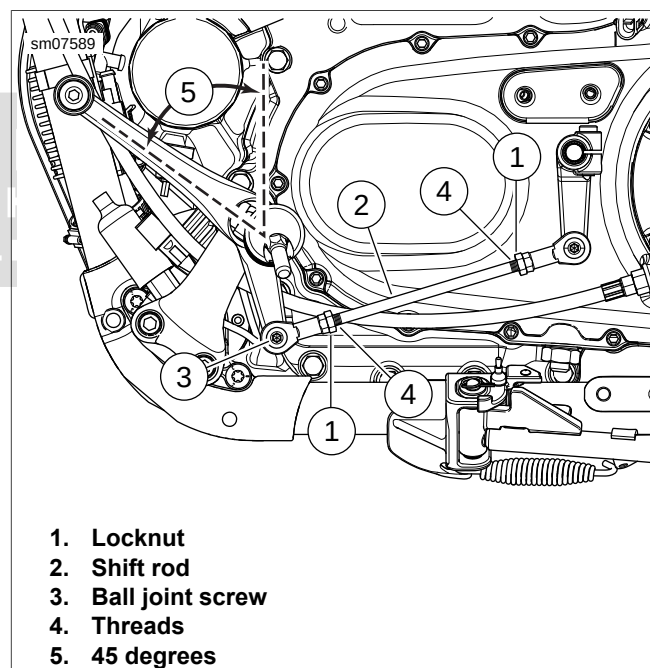

Figure 2-234. Shifter Linkage: Models with Forward Controls
1. See Figure 2-234. Loosen locknuts (1) on shift rod (2).
2. Remove ball joint screw (3).